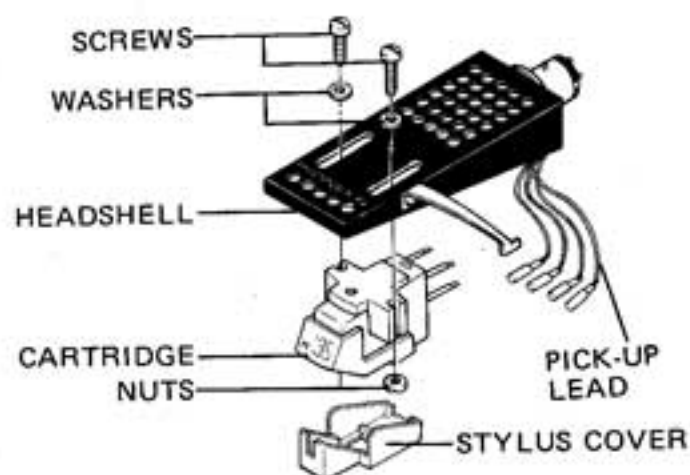

Fig. 1
3. Fit cartridge to headshell (Fig. 1), but do not tighten the mounting screws.